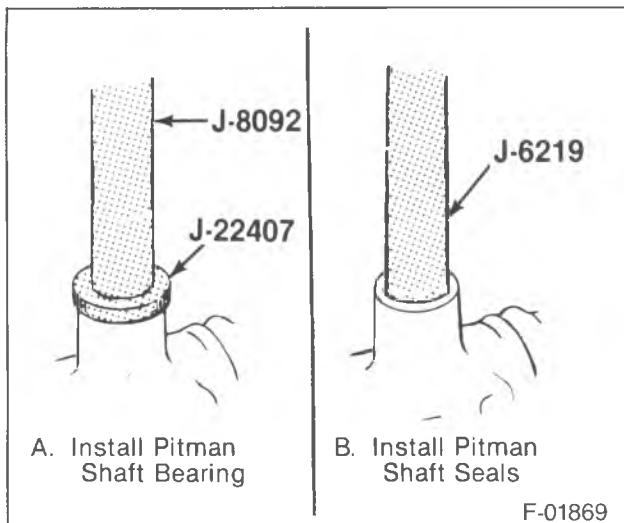

Figure 21—Installing the Pitman Shaft Bearing and Seals
3. Bearing (209) using J 22407 and J 8092.
4. Washers (207) and seals (208) using J 6219 (figure 21).
5. Retaining ring (205).
6. Pitman shaft (221), gasket (224) and side cover (225).
7. Bolt (226) and nut (227).